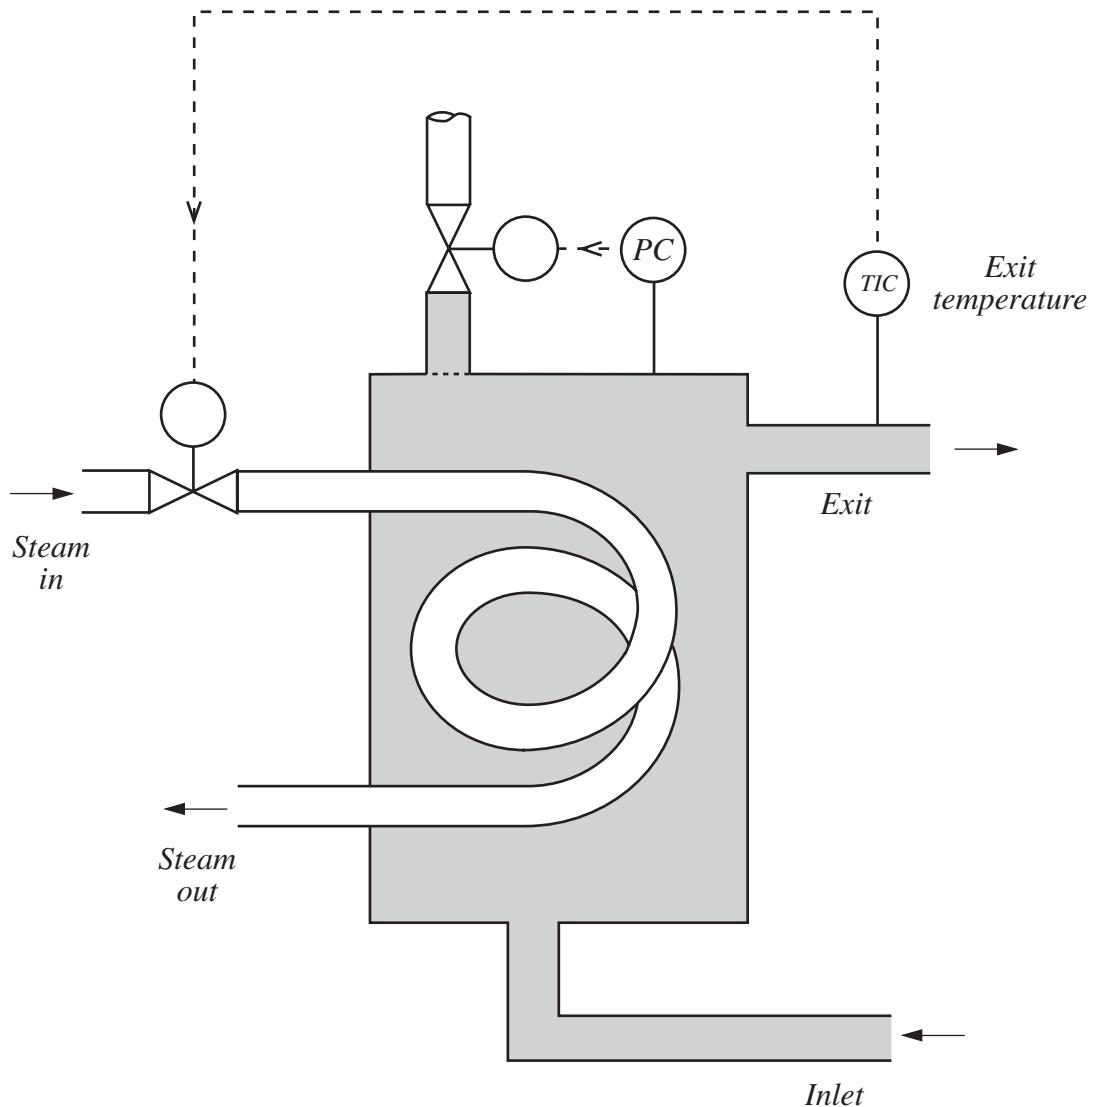

FIG. 9
1. A simple temperature control system is shown in FIGURE 9.